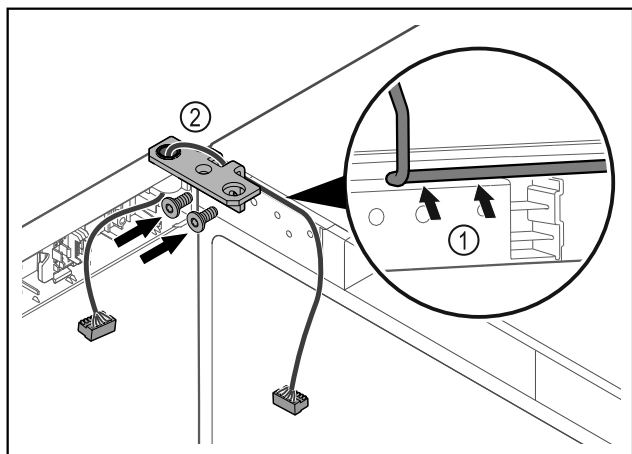

Fig. 47
- ▶ Feed the cable through the recess in the hinge and lay it carefully Fig. 47 (1).
- ▶ Screw on the hinge Fig. 47 (2).